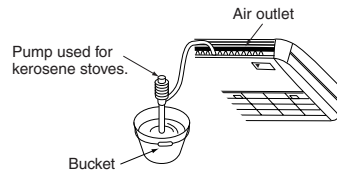

Fig. 25
(2) Confirm that smooth drainage is achieved after the piping work.
- Add 600 cc of water in the drain pan from the air outlet for confirming drainage. (Refer to Fig. 25)